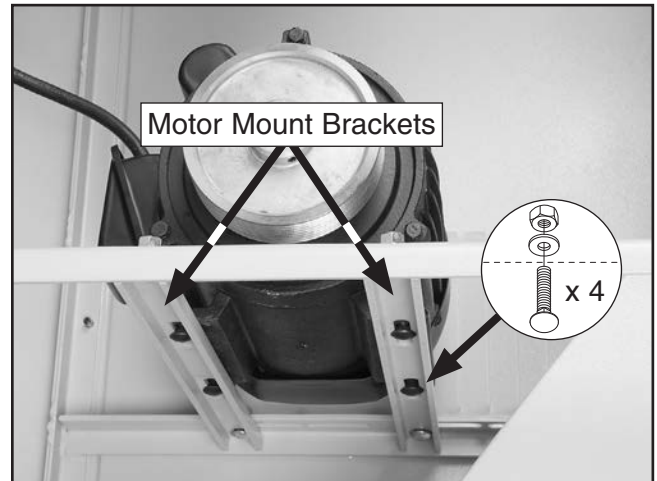

Figure 9. Motor installed.
8. Place motor on the two motor mount brackets with pulley facing rear of stand, as shown in **Figure 9**.
9. Attach motor to motor mount brackets with (4) M8-1.25 x 25 carriage bolts, (4) 8mm flat washers, and (4) M8-1.25 hex nuts (two sets from inventory and two sets that were removed in **Step 6**), as shown in **Figure 9**.